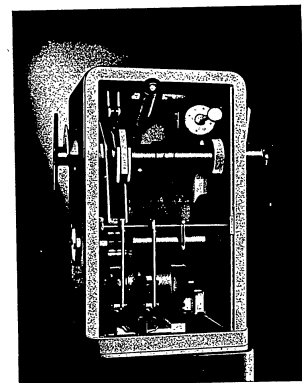

Fig. 20 - A. C. Motor Control.
2) A. C. motor control is adaptable to installations where power of this nature is available (fig. 20). An induction motor, suitably geared, completes closure of the circuit breaker after